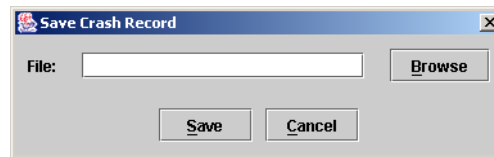

Figure 6-33. Save Crash Record Dialog Box
3. The **Save Crash Record** dialog box displays (see figure 6-33).